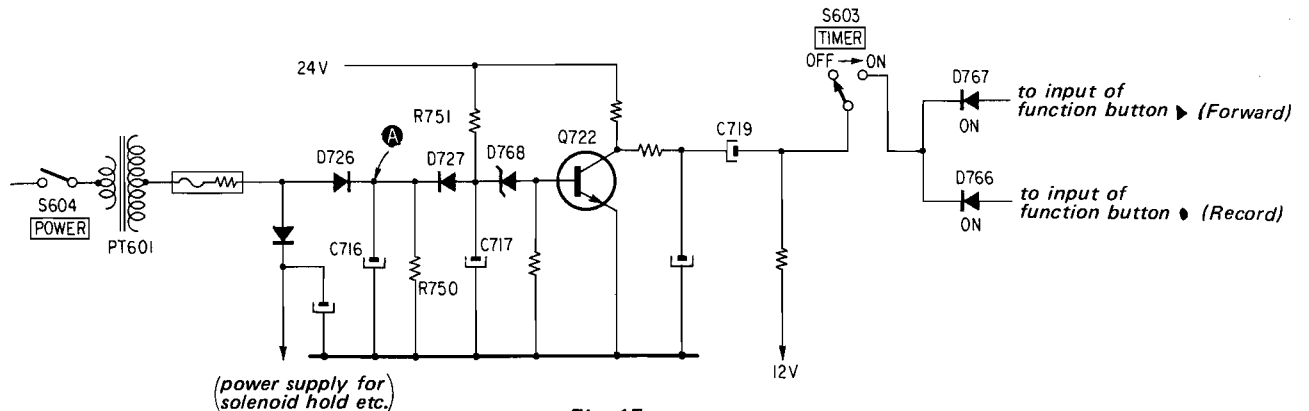

Fig. 15
**13. TIMER-Activated Operation (Refer to Fig. 15)**